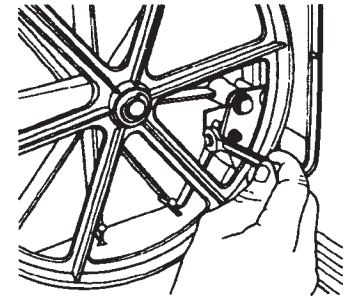

Figure A-13
The nylon screw (65) is adjusted at the factory and should need only periodic checking. It helps control side-to-side movement of the column post within the column bracket. Tighten the nylon screw with a 3/8" wrench to put more pressure on the column post (thus eliminating more side to side movement". Loosen the nylon screw to put less pressure on the column post. See Fig. A-13.